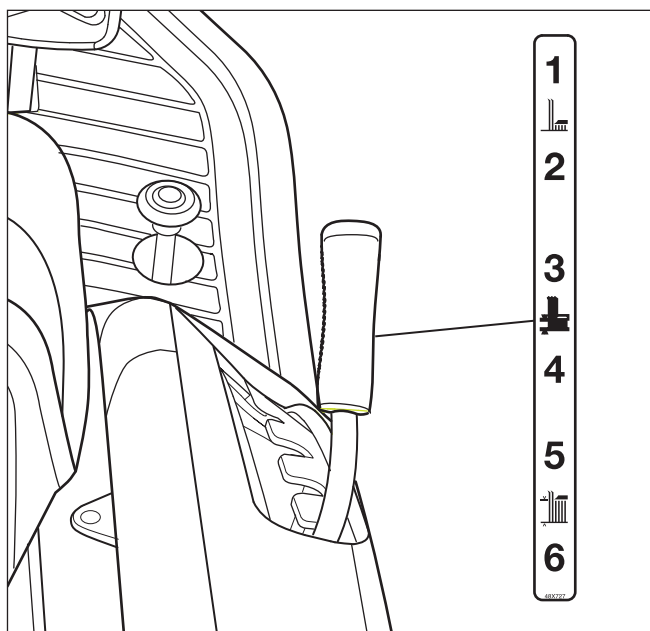

Figure 16
1. Move the lift lever forward to lower the mower deck and back to raise the mower deck (see **Figure 16**).
2. Raise the lift lever to the highest position (see **Figure 16**).
2. Move the lift lever to a height of cut position (see **Figure 16**). In high or thick grass, cut the grass in the highest position first and then lower the mower deck to a lower position.